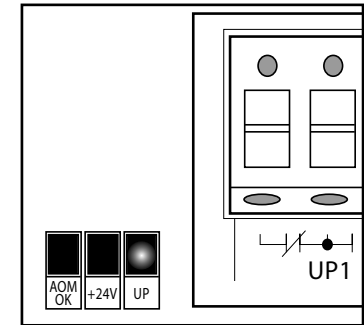

Fig. 5A AOM Board LED's
- If Auxiliary Output Module is properly installed, the "+24V" and "AOM O.K." LED's will light. (Fig. 5A) (See also Sec. 6 - Troubleshooting Section.)